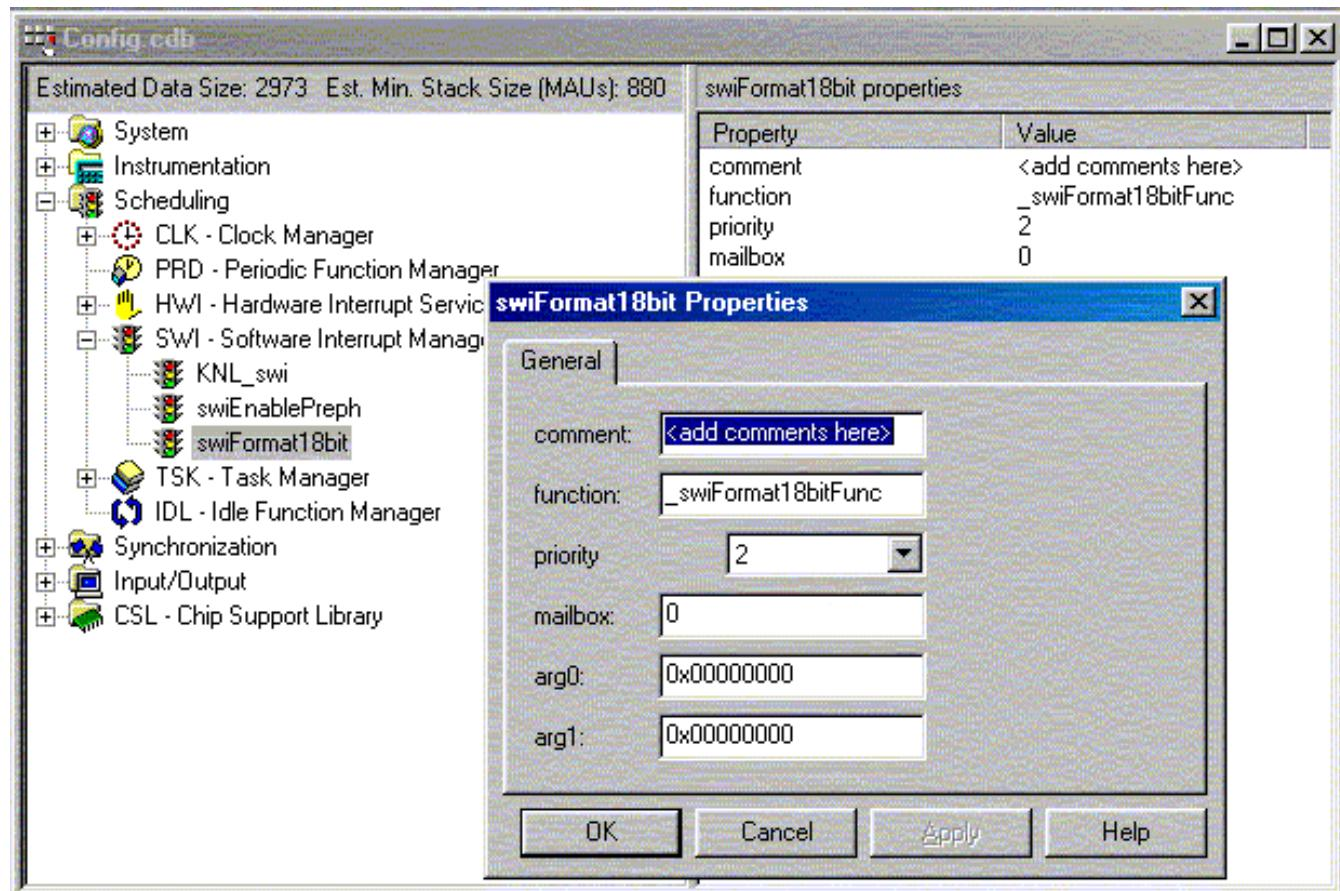

Figure 30. swiFormat18bit Properties
3. Right click on swiFormat18bit and set fields as shown in Figure 30. Format18bit software interrupt copies the data from ad_buffer to F_Buffer. While copying data into F_Buffer, the data is formatted such that the top 14 bits of the 32-bit word are cleared.